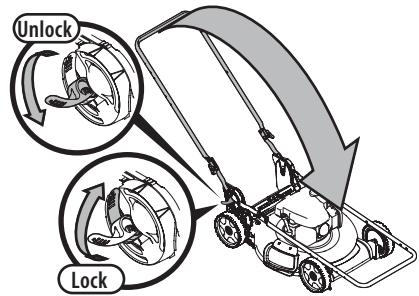

Figure 37
3. Unlock the two handle release levers (Figure 37, inset).
4. Fold the handle forward to the storage position (Figure 37). Do not crimp blade control cable or the drive control cable (if equipped) while lowering the handle.
5. Lock the two handle release levers (Figure 37, inset).
2. To unfold the handle, unlock the two handle release levers (Figure 37, inset) and perform STEPS 5-8 in Set-up, Vertical Storage Handle on page 9.